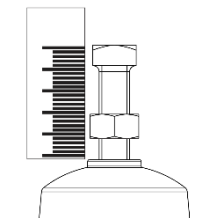

Fig. 6
8- Loosen the lock nut (INS8951) and remove the screw (IN8694). Remember step 2 fig. 6 and measure the distance at which the valve is set.
- c. Adjust the mainspring when you have made the entire assembly to the position previously set (see fig. 6).